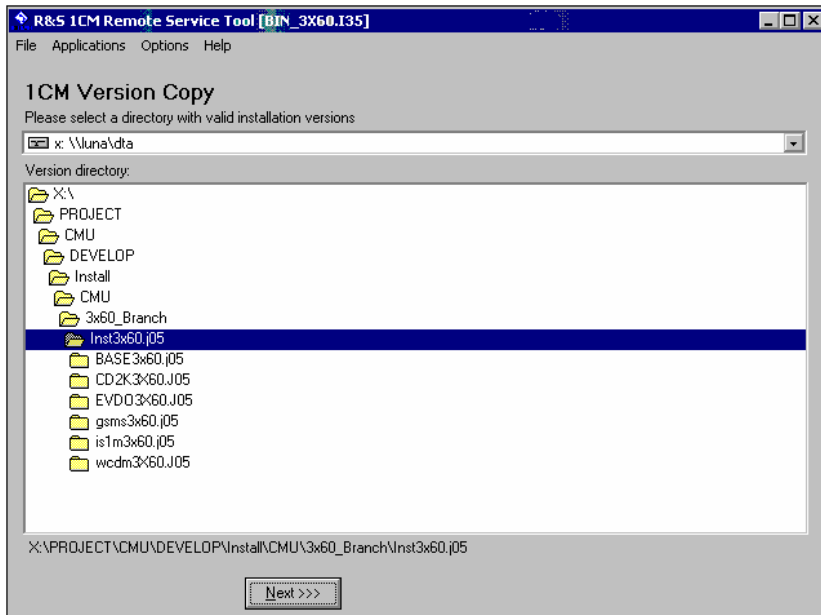

Fig. 1-9 Remote Service Tool main screen (example)
**Note:** *When copying an installation version to a PCMCIA card or floppy, ensure that all folders containing a base system version or network option (the lowest-level folders in Fig. 1-9 below) are in the root directory. Otherwise the CMU will not be able to detect the firmware and start the installation. If a Versions.new text file (see section File Versions.new on p. 1.26 ff.) is used, it must also be in the root directory of the external storage medium.*